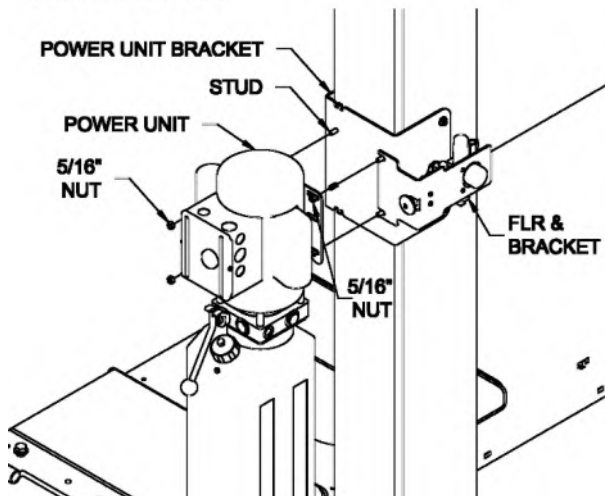
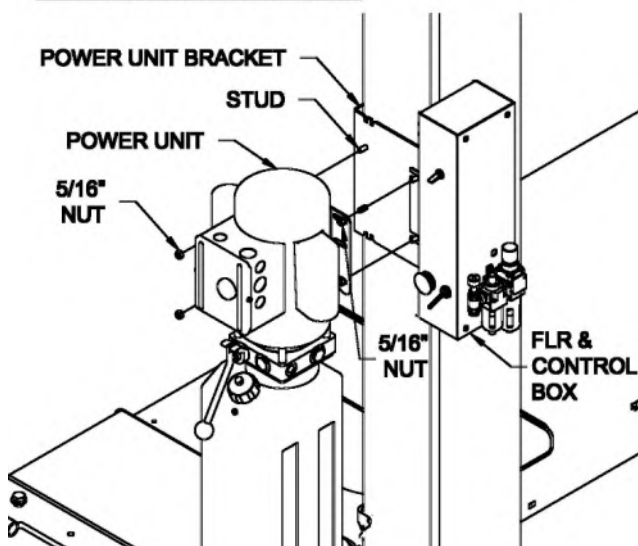

Fig 24a – Power Unit Bracket & Power Unit Mounting
Fig 24b – Power Unit Bracket & Power Unit Mounting for LIGHT & LOCKS
- 42) Place the power unit on the studs and start to thread each nut on just to hold the power unit on the studs. Slip the FLR mounting bracket or the LIGHT & LOCKS control box behind the power unit and tighten all 4 nuts down. See **Fig 24a or Fig 24b**.